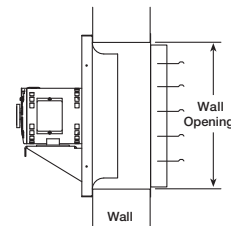
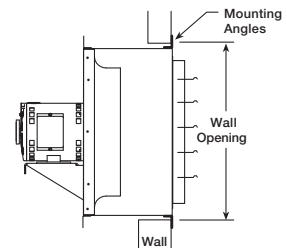
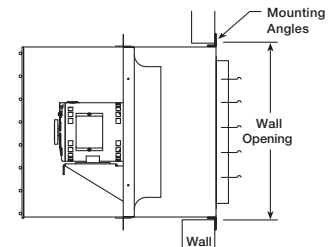
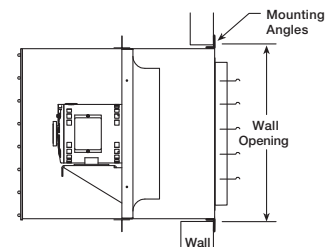

Figure 6 — Direct to Wall Installation
Figure 7 — Wall Collar Installation
Figure 8 — Wall Collar & Guard Installation
Figure 9 — Wall Housing Installation
1. Move fan to the desired location and determine the method by which the fan is to be mounted as shown in Figures 6, 7, 8 and 9. Optional wall collar (Figure 7), wall collar and guard (Figure 8) or wall housing (Figure 9) provide a convenient means of mounting sidewall fans.